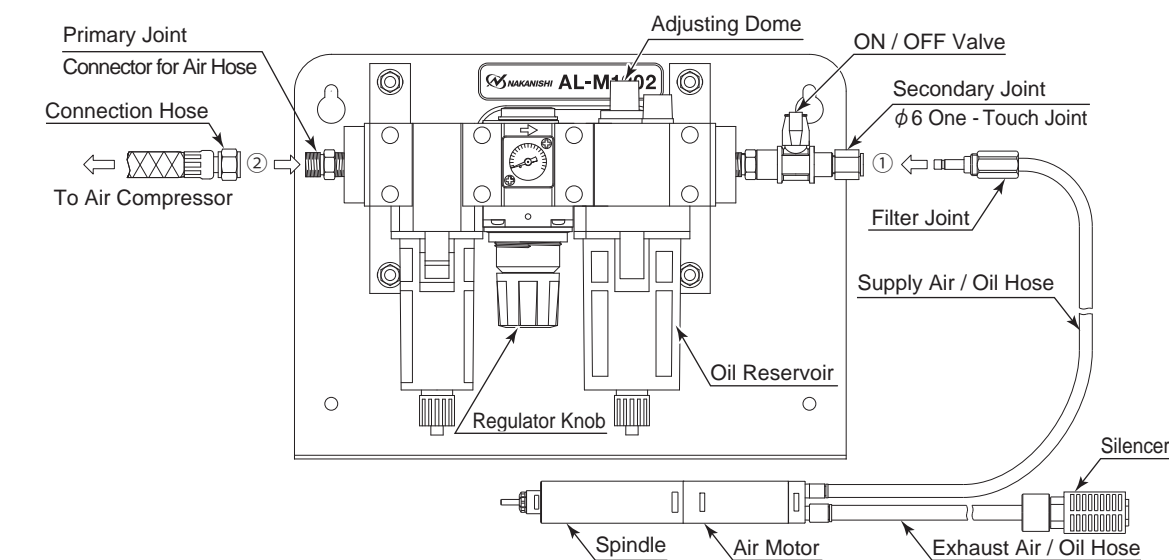

Fig. 4 Connection of Air Line Kit "AL - M1202 (Sold Separately)"
- Connect the Filter Joint of the supply air / oil hose to the Secondary Joint ($\phi 6$ One - Touch Joint) of the Air Line Kit (Fig. 4 ①).
- Connect the connection hose (Air Line Kit's Standard Accessories) to the Primary Joint of the Air Line Kit and Compressor (Fig. 4 ②).